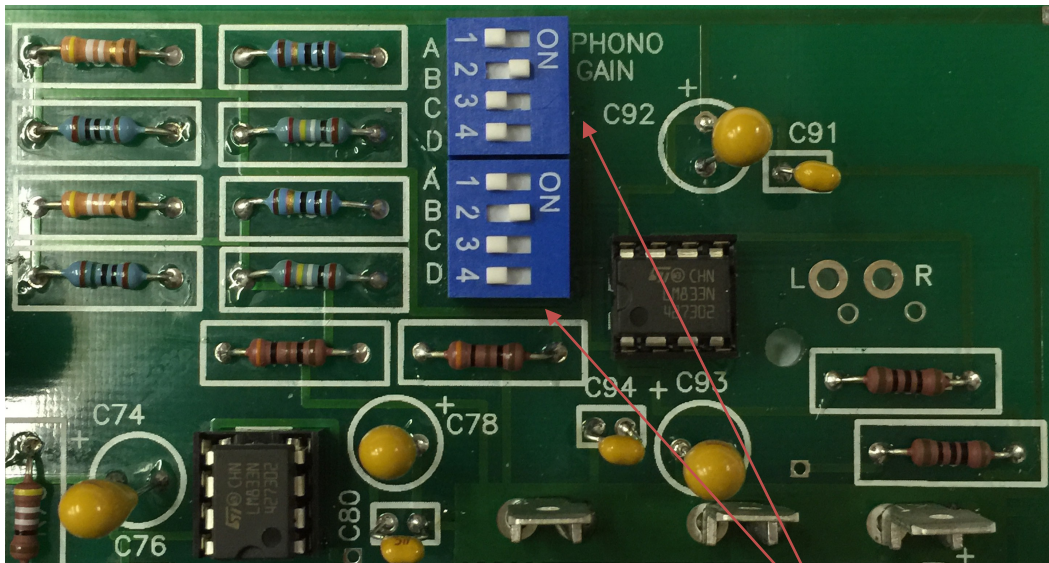

Figure 4
**Setting the phono gain** - The two DIP switches for setting the gain are located on the right rear corner of the main circuit board as shown in Figure 4.
A setting of 45 dB is shown in Figure 4.